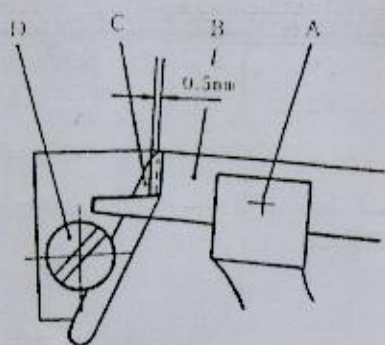

Fig. 12
Model GK35-8 thread chain cutter are driven by mechanism. The knife (C, Fig. 12) is positioned in the tapered slot in the front of base by screw (D). The cutting steel (B) is positioned in the slot of the knife holder by screw (A) and making reciprocating motion by running of the machine. In cutting, the edge of the cutting steel and the knife should overlap by 0.5mm (.020 in.). For adjustment, loosen screw (A) and (D), set as required, retighten screw. Caution: The tip of the knife and the cutting steel should be positioned 0.3-0.5mm (.012 to .020 in.) below the throat plate top surface.